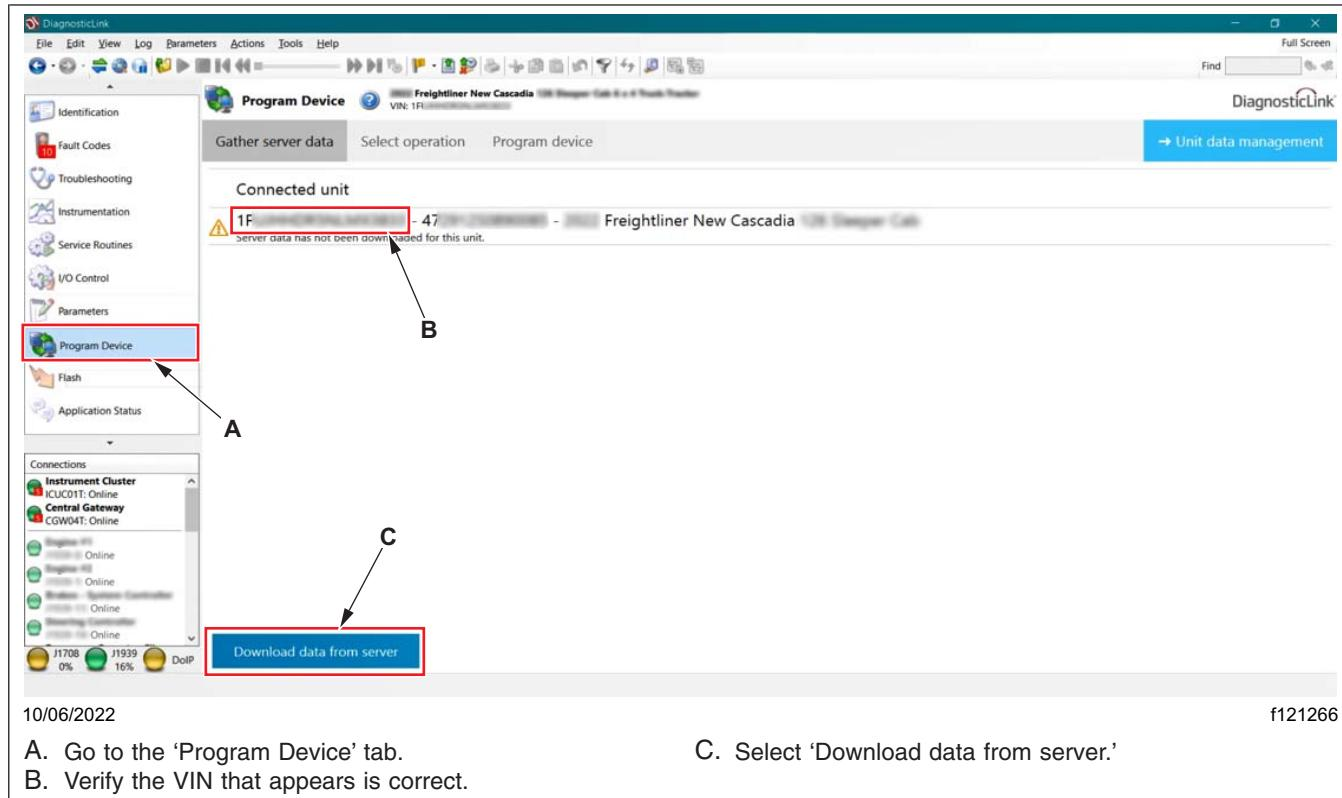

Fig. 6, Downloading the Data from the Server
17. Go to 'Program Device,' and make sure that the vehicle identification number (VIN) that appears is correct. Then select 'Download data from server.' See **Fig. 6**.